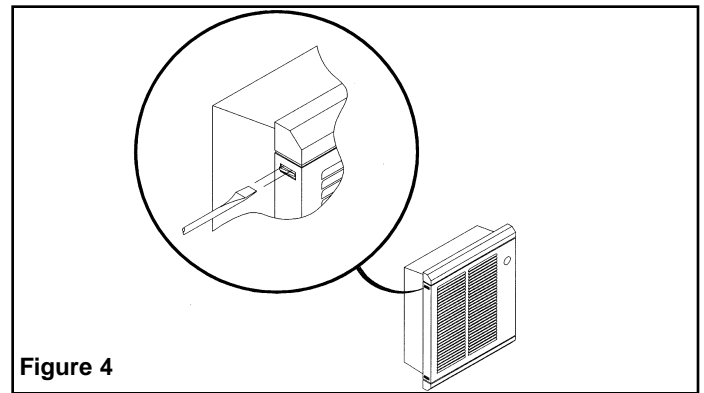

Figure 4
3. Remove front cover by depressing plastic tabs with a flat bladed screwdriver as shown in Figure 4. Release both tabs on one side then rotate cover off of heater assembly.